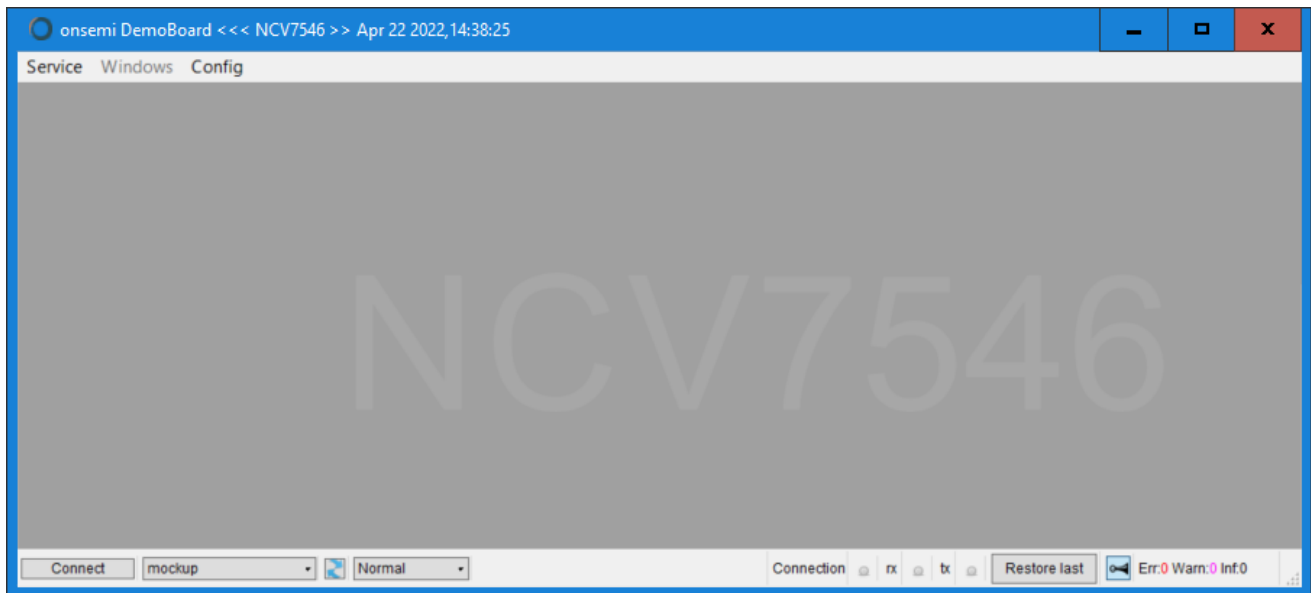

Figure 7. NCV7546 Controller Framework
6. In the startup frame select corresponding virtual COM port (see Figure 7). You may need click the Refresh button several times.